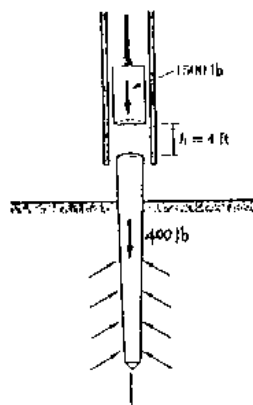

Figure 4
(4) It is desired to drive the 400-lb pile into the ground until the resistance to its penetration is 24,000 lb. Each blow of the 1500-lb hammer is the result of a 4-ft free fall onto the top of the pile. Determine how far the pile will be driven into the ground by a single blow when the 24,000-lb resistance is achieved. Assume that the impact is perfectly plastic (Figure 4). (15%)